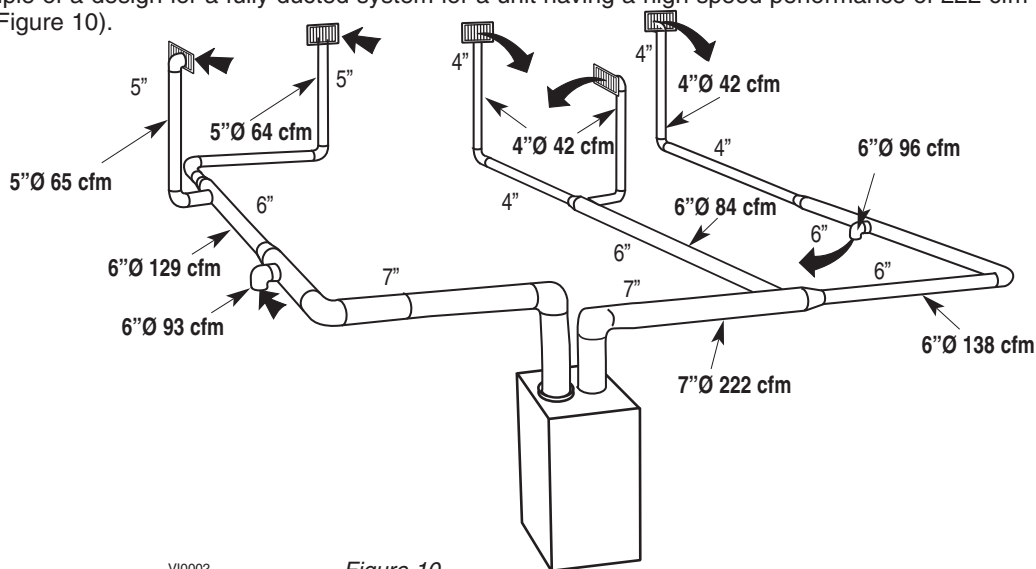

Figure 10
5.3.2 Example of a design for a fully ducted system for a unit having a high speed performance of 222 cfm (see Figure 10).